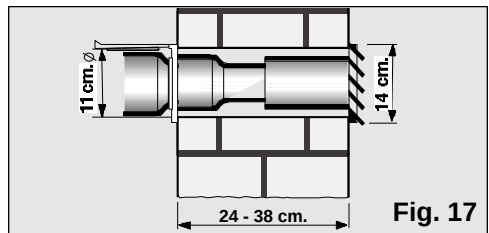

Fig. 17
- ❑ To expel hot air through the wall, it is necessary to make a hole in the wall and fit the wall grommet, **Fig. 17**.